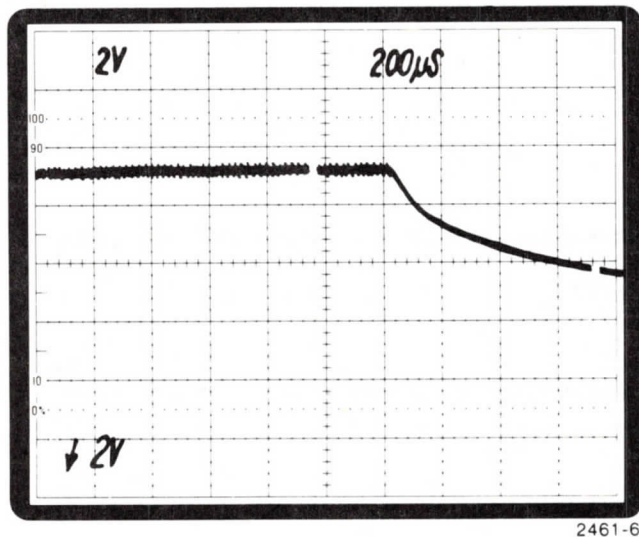

Figure 10-3. PDWN-INIT Signal.
7. Turn off the terminal while watching the oscilloscope for a PDWN-INIT signal. See Figure 10-3. Do not disconnect the oscilloscope probes.